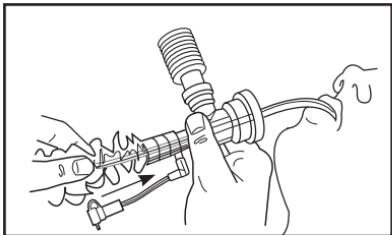

Fig. 1
1. Stabilize BALLARD® catheter and endotracheal (ET) adaptor with one hand then push the catheter into the endotracheal tube with the thumb and forefinger of the opposite hand (**Fig. 1**).